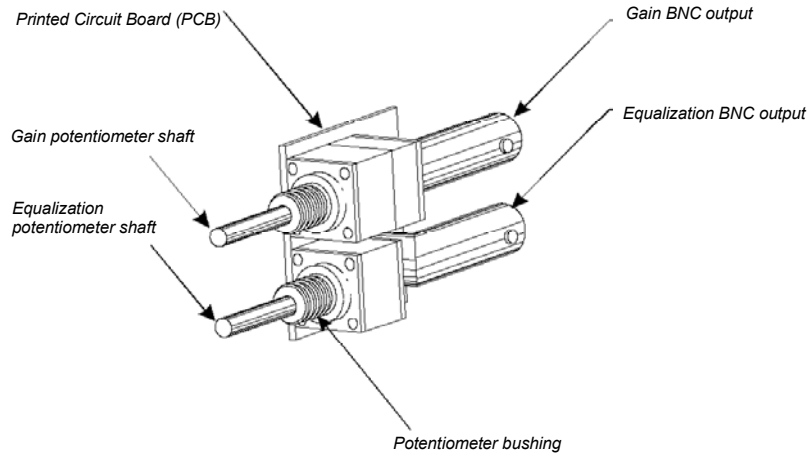

Figure 4. The Control Module PCB
2. Position the control module PCB in the panel ensuring that the "GAIN" potentiometer shaft is inserted in a hole along the "GAIN" row of holes. See Figure 4.
6. Connect the coax cable that is connected to the DA rack frame BNC output 8 to the Gain (upper) BNC output of the module. See Figure 4 and 7.
7. Connect the coax cable that is connected to the DA rack frame BNC output 7 to the Equalization (lower) BNC output of the module. See Figure 4 and 7.